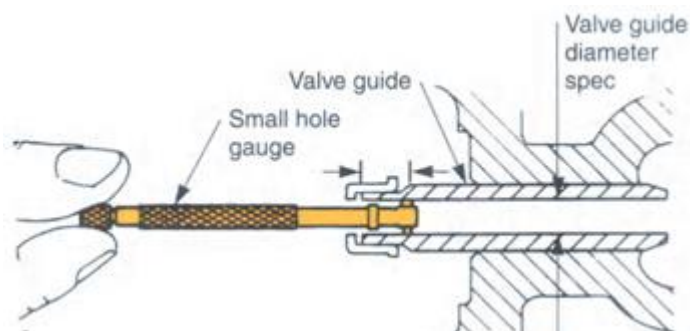

Fig.20
- Measure the inside diameter of the valve guide "D" using a small hole gauge and outside micrometer (Fig. 20).